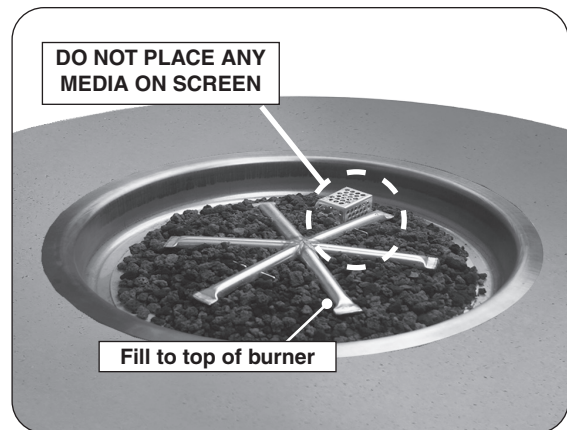
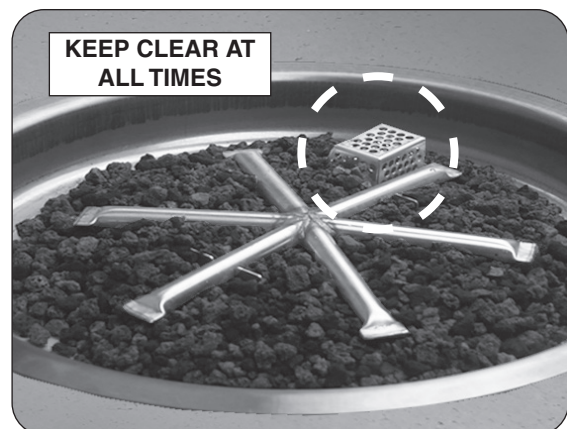

Fig. 35-1 Place lava granules
Fig. 35-2 Screen detail
- Ensure it is in the correct upright position, centered on the tray, and with the valve facing inward. See Fig. 35-2, 35-3 and follow the warning labels on the tank for proper placement.
1. Pour the 5 or 10 lb bag of lava granules into the burner pan (with the exception of the screen). Spread the granules within the burner area as shown in Fig. 35-1 and Fig. 35-2. **Only fill the granules up to the top of the burner tube.**